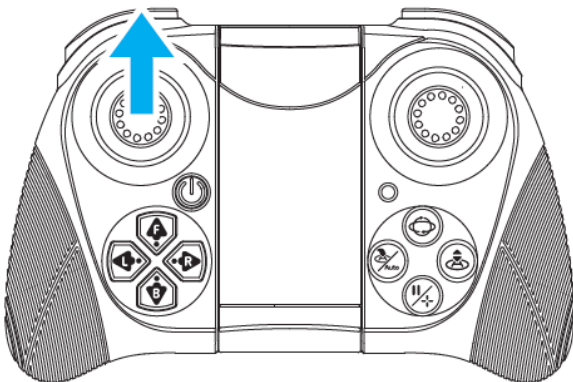
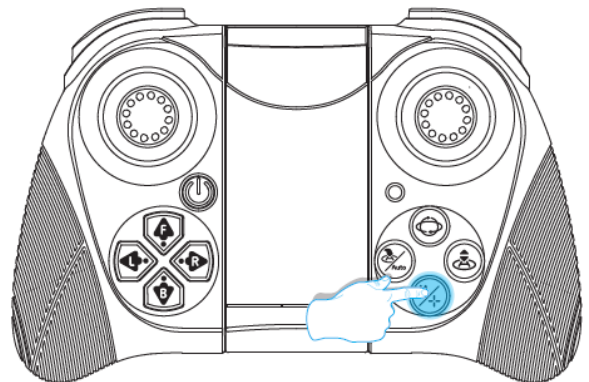

Figure 2
Figure 3
1. Press the upper and lower ends of the battery with your fingers according to Figure 1, then slide the battery down according to Figure 2, and then remove the battery.
Push the left control lever on the remote control upward (Figure 2). At this time, the aircraft can take off normally. After taking off, all the indicator lights of the aircraft will always be on. During the flight, whether you short press the $\frac{3}{4}$ - key, the aircraft will stop flying (Figure 3).